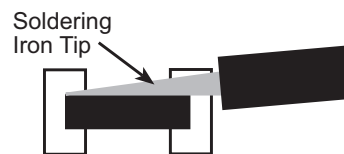

Figure 2. Laying Soldering Iron Tip Against Surface-Mounted Chip Component
3. To remove a discrete component such as a surface-mounted resistor or jumper wire, lay fresh wick over both ends of the component. Apply heat to the middle of the component. Push the component away from the circuit board or lift it off with the solder wick. Alternatively, the tip of the soldering iron may be placed across both ends of the component, as shown in Figure 2, to flick the component away. Note that any solder remaining on all the pads needs to be melted before attempting to remove the component so as not to peel the pad off the printed circuit board.